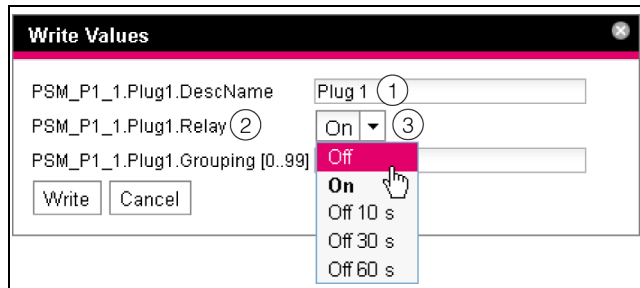

Fig. 18: Performing switch commands
DescName	The specific description that was assigned to the output or the socket (fig. 18, item 1).
Command	The command to be performed. The following commands are supported: "Off", "On", "Off 10 s", "Off 30 s", "Off 60 s" (fig. 18, item 3).
Device	The device index (ID number) that is prefixed to the associated Real Device in the navigation area of the IoT interface website (fig. 18, item 2).
Command	The command to be performed. The following commands are supported: "Off", "On", "Off 10 s", "Off 30 s", "Off 60 s" (fig 18, item 3).